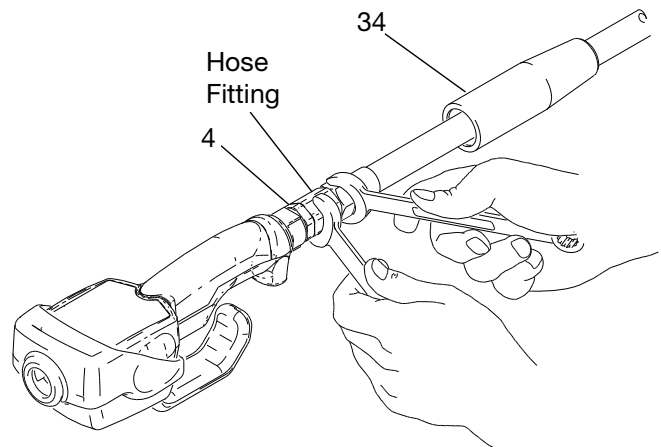

FIG. 5
2. Slide the swivel cover (34) onto the hose, small end first, before connecting the hose fitting to the swivel (4) (FIG. 5).
4. Thread the hose fitting into the swivel (4) and tighten firmly (FIG. 5).